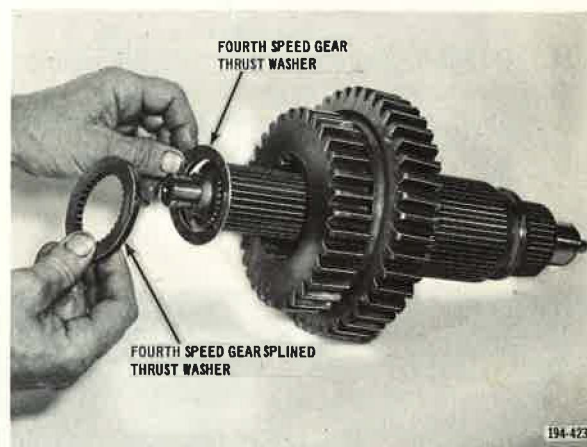

Figure 45. Installing Fourth Speed Gear Thrust Washer and Splined Thrust Washer
9. Install fourth speed gear thrust washer and splined thrust washer. Then retain assembly with fourth speed gear retaining snap ring. See Figures 45 and 46.